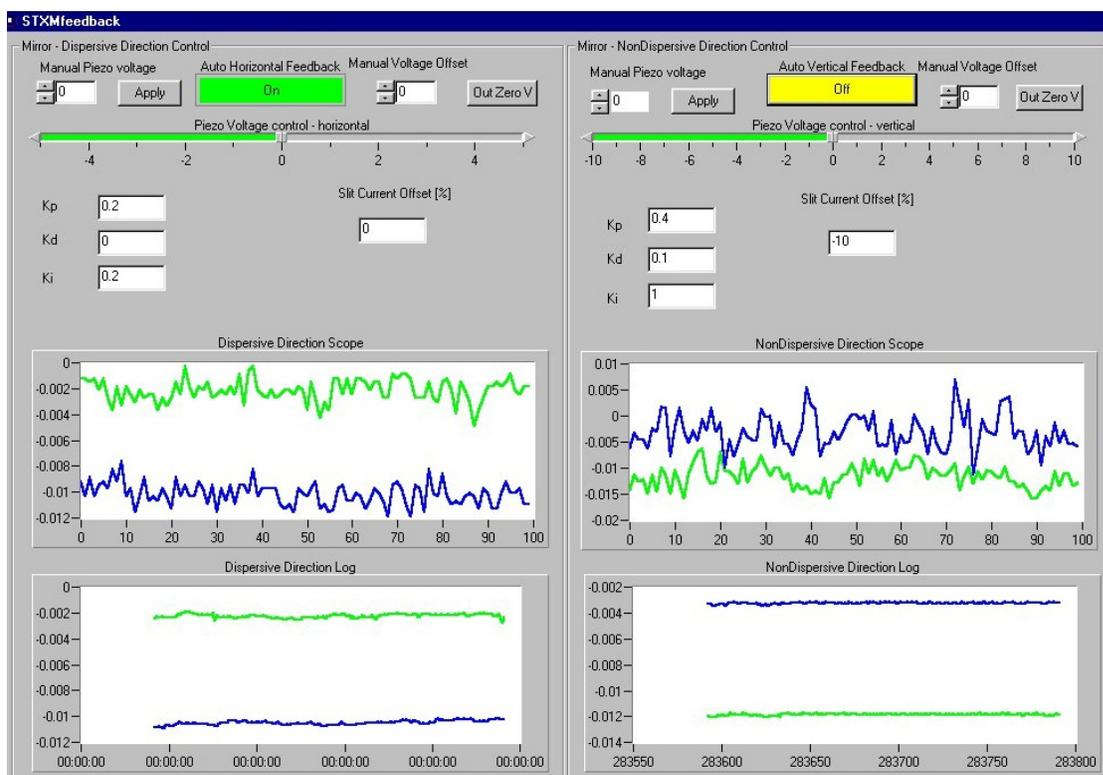

Fig. 3.1 Toroid mirror feedback control screen
9:45 Optimizing photon beam (**Fig. 3.1**)
- Push the “INPUT” button on the monitor to display the Toroidal Mirror Control computer display. This plots the time record of the toroidal mirror feedback system in two different time domains for tracking fast and longer term stability of the photon beam position (see **Fig. 3.1**). Turn off the feedback control of both horizontal (dispersive) and vertical (non dispersive) (buttons will change from green to yellow).